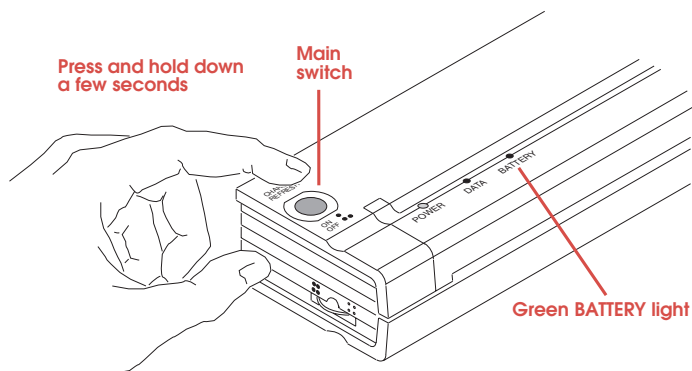

FIGURE 6. Charging the battery.
- 4 Press the main switch and hold it down for a few seconds until the green BATTERY indicator light stays lit. See Figure 6.